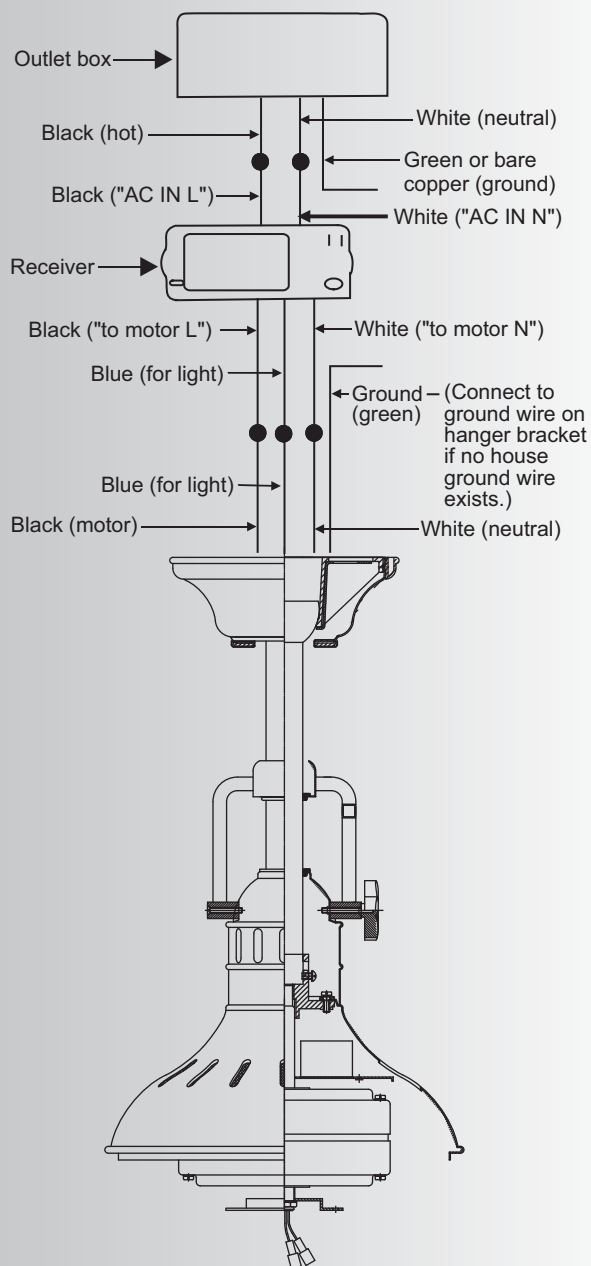

Fig. 13
Step 2. Motor to Receiver Electrical Connections: (Fig. 13)
Step 3. (Fig. 13) Receiver to House Supply Wires Electrical Connections:
Step 4. (Fig. 13) If your outlet box has a ground wire (green or bare copper) connect it to the fan ground wires; otherwise connect the hanging bracket ground wire to the mounting bracket. Secure the wire connection with a plastic nut provided. After connecting the wires, spread them apart so that the green and white wires are on one side of the outlet box and black and blue wires are on the other side. Carefully tuck the wire connections up into the outlet box.